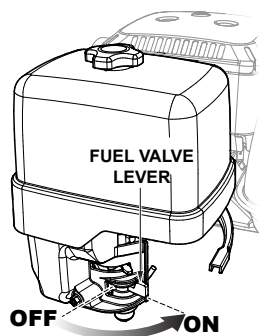

Figure 20. Engine Fuel Lever (ON Position)
1. Place the engine fuel lever in the **ON** position. (Figure 20).
4. Place the fuel valve lever (Figure 20) in the **OFF** position.